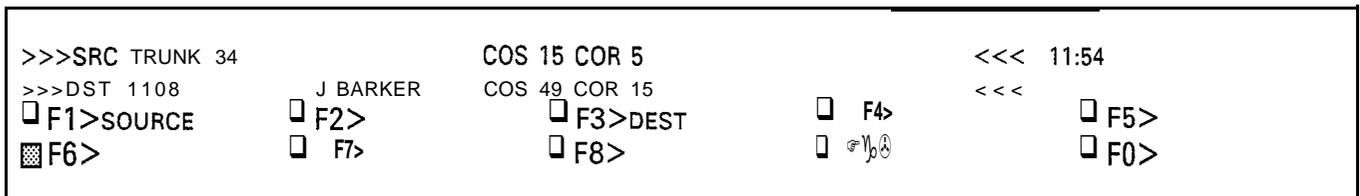

Figure 3-18 In a Conference
3.23 If the Attendant selected the conference option the LCD will appear as in Figure 3-18. The Attendant has the option of call splitting; i.e., talk to the source party alone or talk to the destination party alone.